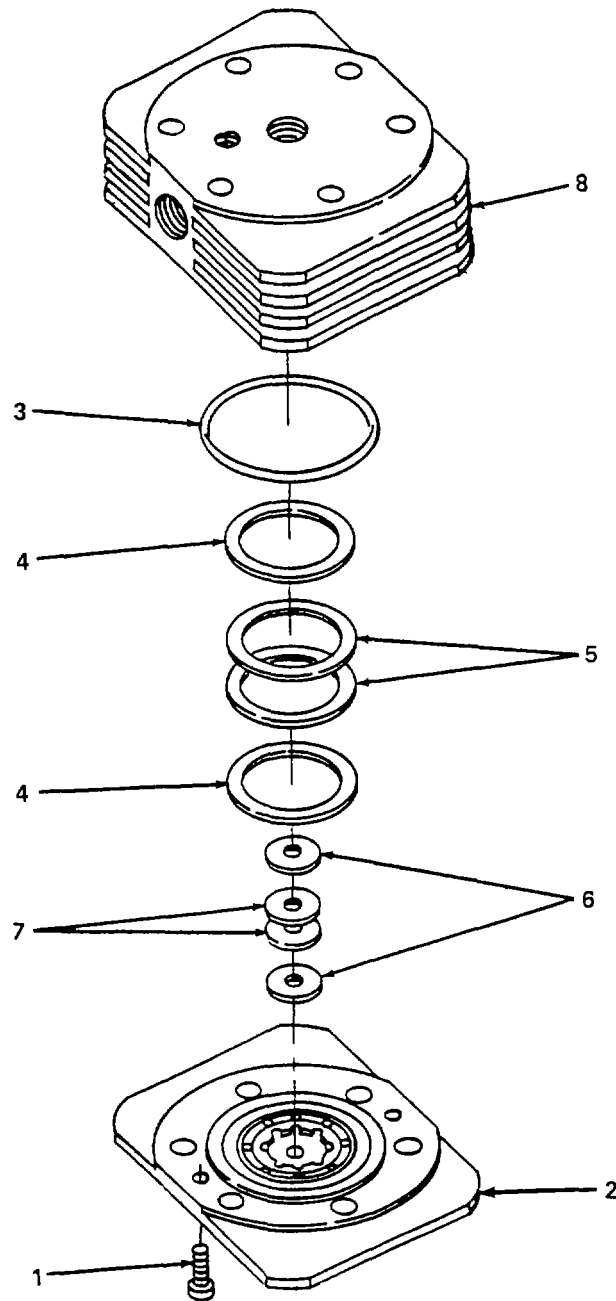

Figure 5-32. Second Stage Valve Head Assembly, Repair.
- (6) Apply teflon tape to pipe threads on two elbows (9) and install two elbows (9).
- (7) Ensure all seating surfaces are clean.
- (8) Install new preformed packing (8) and second stage valve assembly (7), and secure with six bolts (5) and washers (6). Torque bolts (5) to 8 lb-ft (11 Nm).
- (9) Connect line (10) and tighten connector nut (2).
- (10) Connect line (11) and tighten connector nut (1).
b. Repair. (figure 5-32)
- (1) Remove second stage valve assembly (para. a.).